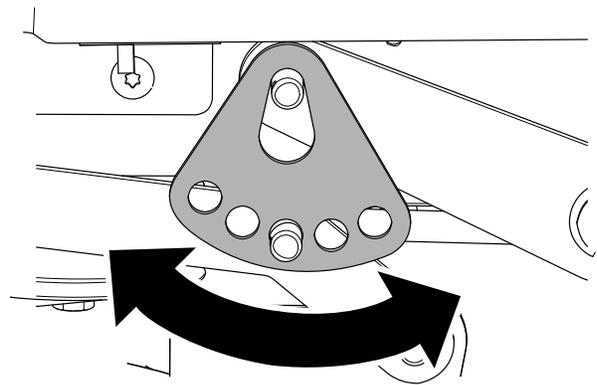

**Figure 71**
6. Remove the hairpin cotter and washer from the lower lift-arm pin (Figure 71).